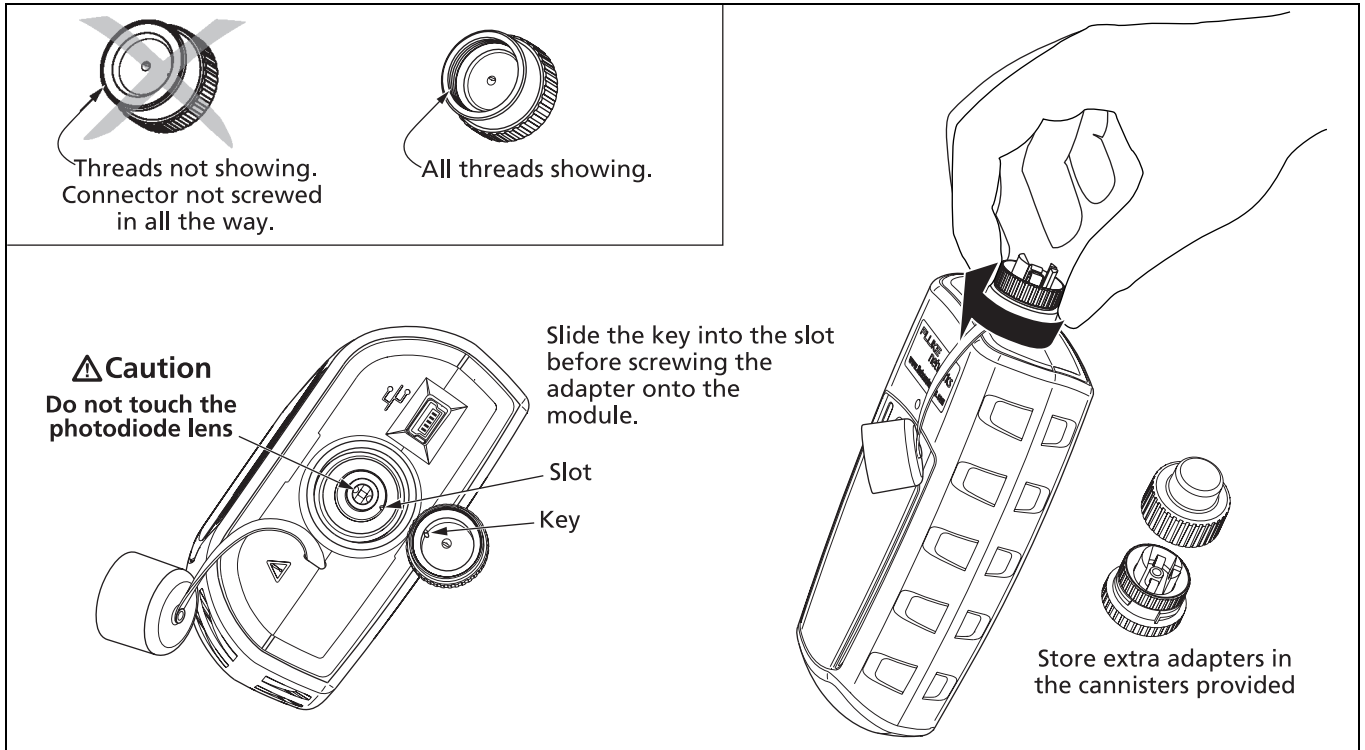

Figure 4. Installing the Connector Adapter
- 1 Remove the connector adapter to expose the photodiode lens (see Figure 4).
- **Do not touch the photodiode lens (see Figure 4).**
To install a connector adapter, refer to Figure 4 and do the following: